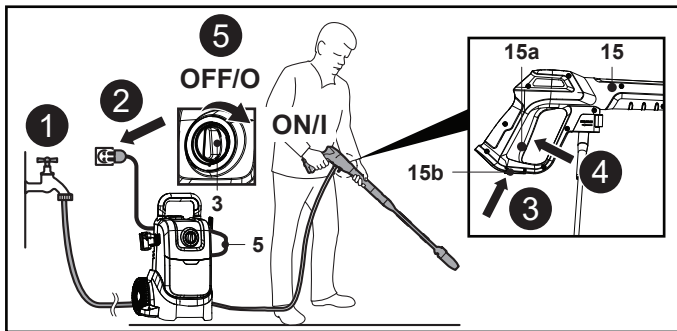

Fig. 17
1. Open the water tap to let the water flow into the pump (Fig. 17, step 1).
2. Connect the power cord (5) to power supply ensuring that the on/off rotary switch (3) is in the off position (Fig. 17, step 2).
3. Pull the trigger lock (15b) at the bottom of spray gun (15) back to unlock the spray gun trigger (15a) (Fig. 17, step 3).
4. Fully press the trigger (15a) until there is a constant flow of water to clear the air from the machine and water supply hose (Fig. 17, step 4). Release the spray gun trigger (15a) afterwards.
5. Switch on the machine by rotating the on/off rotary switch (3) to "I" position (Fig. 17, step 5).